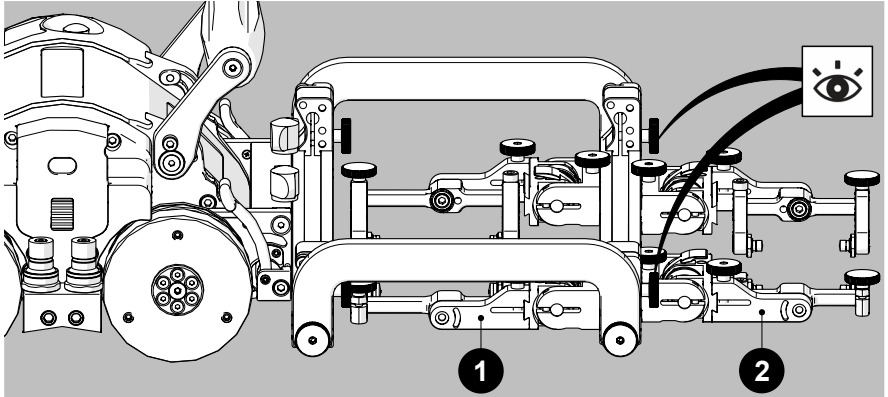

Fig. 138 - Position primary and secondary probe holders
3. Mount the low profile probe holder frame to the crawler (see *Cable Retainer* on page 45 for additional details). When mounting the low profile frame, ensure the attachment knobs (Fig. 138) are at the front (non crawler side).